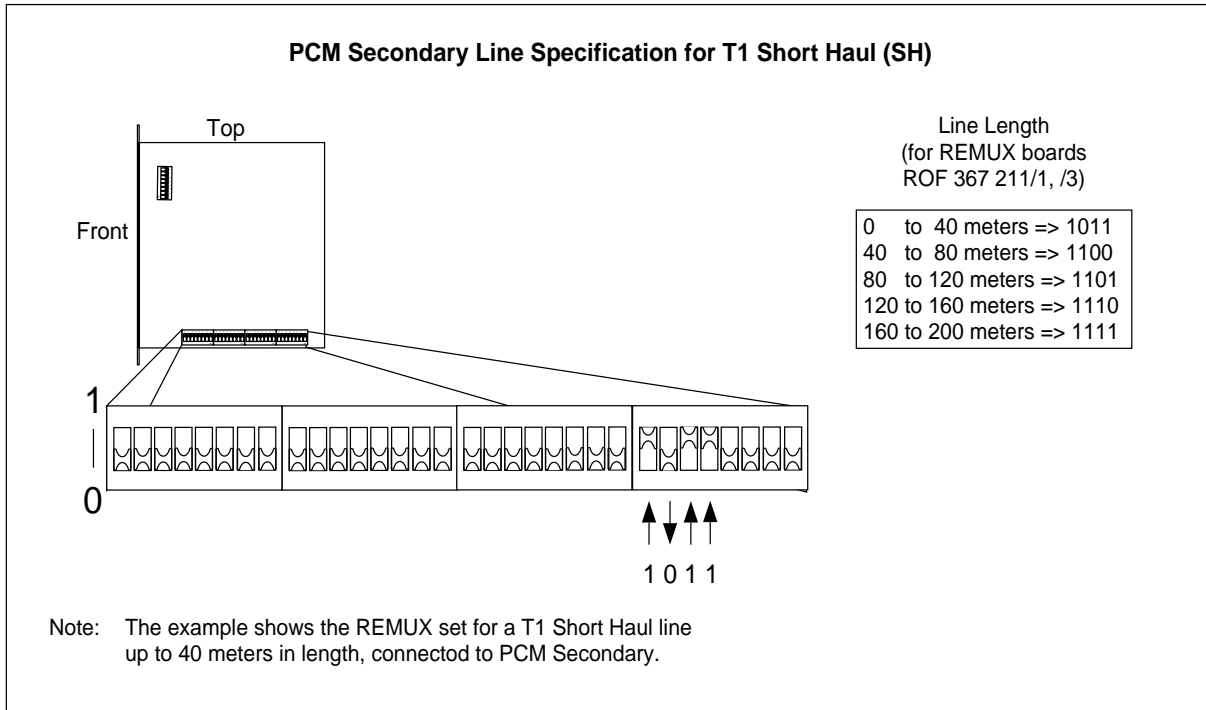

Figure 4-21. Settings for the PCM Secondary Line Specification, T1 Short Haul
- If line length is used (T1 Short Haul), see Figure 4-21 on page 4-39.